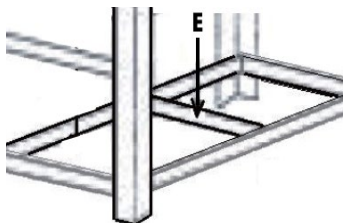

Fig. 6
7. Locate the middle shelf brackets (E) and attach them across the middle of each set of long shelf braces (Fig. 6).